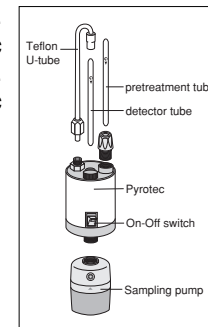

fig. 1
5. Insert the tube securely into Gastec Pyrotec Pyrolyzer with the arrow **G** on the tube pointing toward Gastec Pyrotec Pyrolyzer (fig. 1).